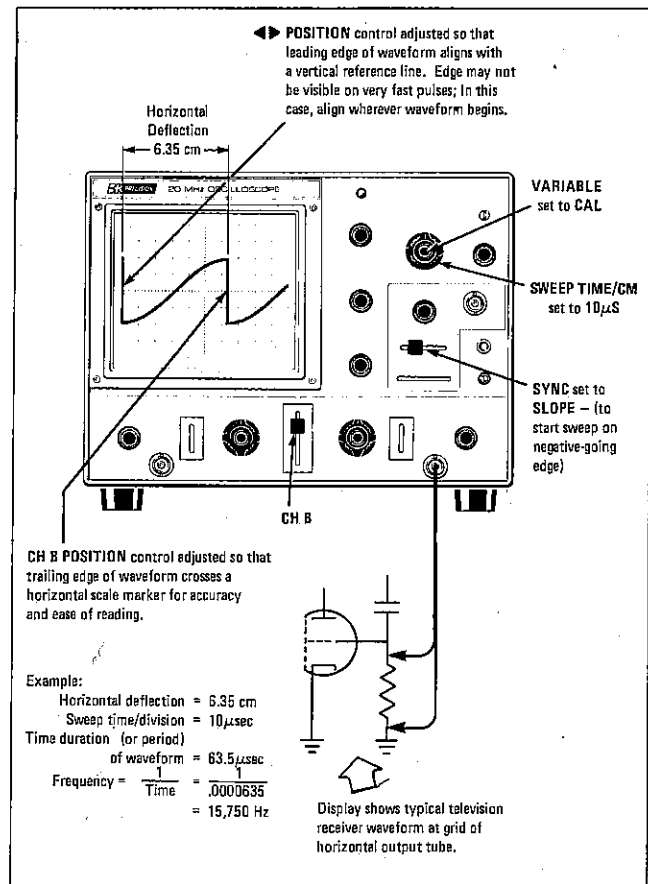

Fig. 7. Typical time measurement.
CALIBRATED TIME MEASUREMENT (See Fig. 7)
2. Be sure the sweep time VARIABLE control (9) is fully clockwise to the CAL position.
3. Set the SWEEP TIME/CM control (8) for the largest possible display of the waveform segment to be measured, usually one cycle.
4. If necessary, readjust the TRIGGERING LEVEL control (14) for the most stable display.
5. Read the amount of horizontal deflection (in cm) between the points of measurement. The ◀ POSITION control (7) may be readjusted to align one of the measurement points with a vertical scale marker for easier reading.
6. Calculate the time duration as follows: Multiply the horizontal deflection (in cm) by the SWEEP TIME/CM switch (8) setting (see example in Fig. 7). Remember, when the 10X magnification is used, the result must be divided by 10 to obtain the actual time duration.